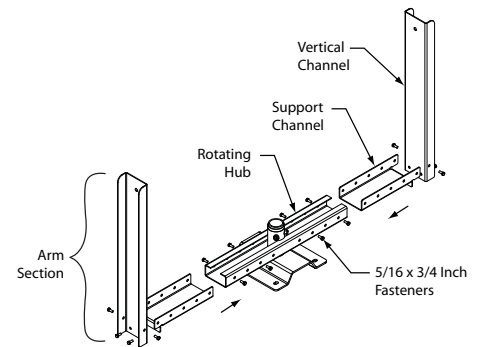

Figure 8 — Ceiling-Mount Bracket Assembly
1. Refer to Figure 8. Assemble (1) Vertical Channel to (1) Support